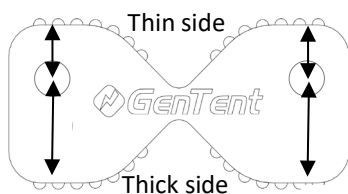
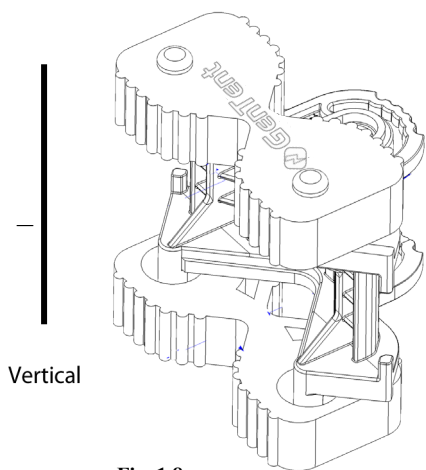
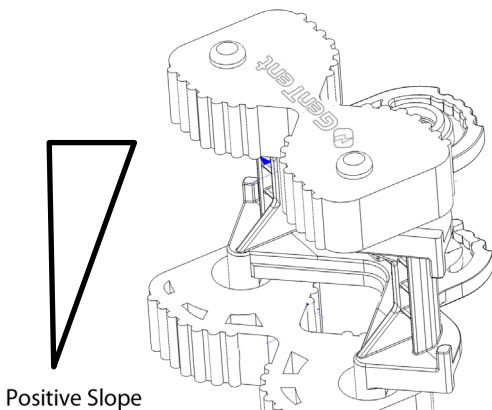
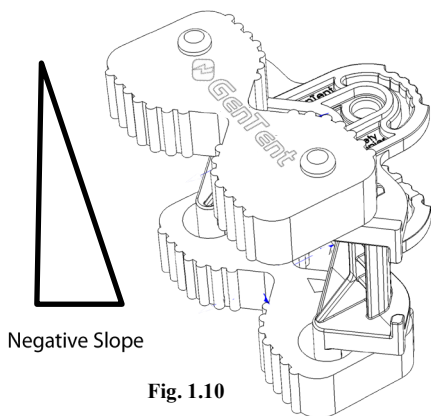

Fig.1.4
Fig. 1.8
Fig. 1.9
Fig. 1.10
The Gator Grommets™ (Fig1.4) are pressed onto the pins of the Angle Brace to create a corner mounting assembly. The grommets allow the assembly to grip the generator case without marring the surface. Each Gator Grommet™ has two (2) thicknesses allowing for optimal fit on various case shapes.
The Gator Grommets™ are used to keep the Angle Braces as level as possible on the case and to give the mount assembly a tight grip against the case. Use the diagrams in Figures 1.8, 1.9 and 1.10 to see how to install the Gator Grommets™ based on your slope.
- If you have a case that is straight up and down (**Vertical case**); install both Gator Grommets™ so that the “thin” (fig 1.4) side will be facing the generator case. (fig 1.8)
- f. If you have a case that slopes in at the base (**Positive Slope**); install the top Gator Grommet™ with the “thin” (fig 1.4) side and the bottom Gator Grommet™ with the “thick” (fig 1.4) side facing the case (Fig 1.9)
- g. If you have a case that slopes out at the base (**Negative Slope**); install the top Gator Grommet™ with the “thick” (Fig 1.4) side and the bottom Gator Grommet™ with the “thin” (fig 1.4) side facing the case. (fig 1.10)